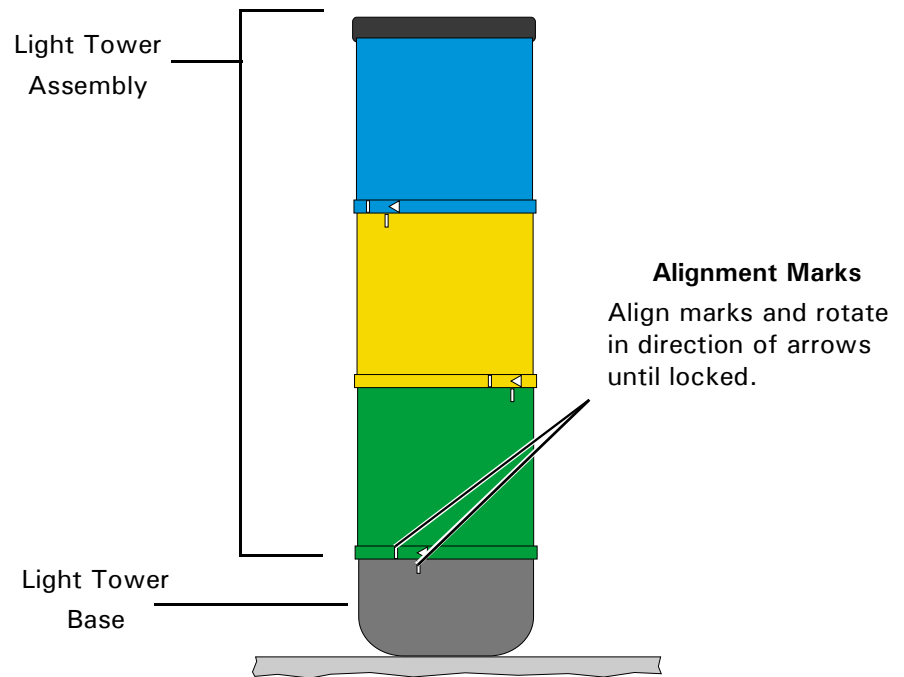

Figure 3-9
1. Assemble the light tower assembly to the light tower base by aligning the white line on bottom lens with the white line on the base. See Figure 3-9.